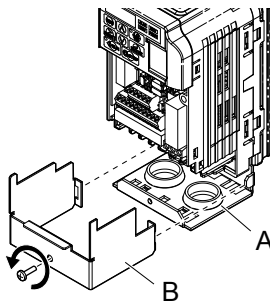

Figure 7.12 Remove the Terminal Cover
2. Loosen the screw on the terminal cover (Figure 7.12, B) to remove the terminal cover and expose the conduit bracket (Figure 7.12, A).